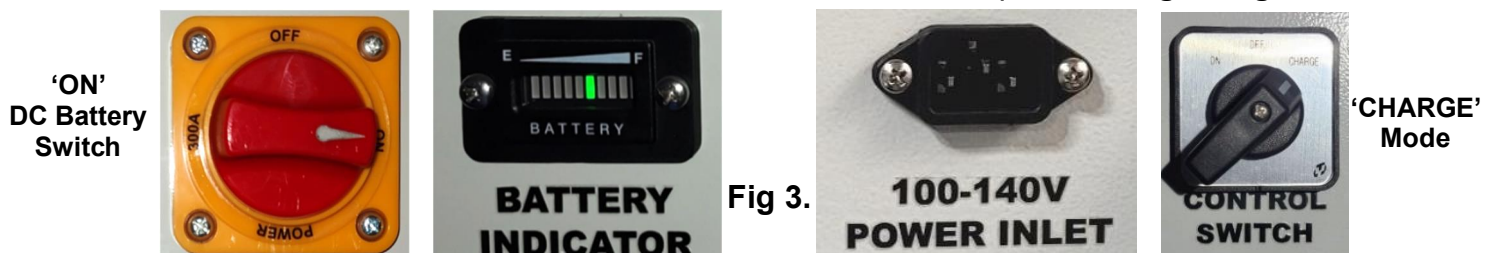

Fig 3.
- The Lift Table includes an integrated **Battery Charger** inside the control box & **Battery Level Indicator** located on the control box panel. After the **DC Battery Switch** is turned **ON** the **Battery Indicator** will provide the battery level status output capacity. **Green bars** indicate normal battery level output, **Yellow bars** for low output & **Red bars** for warning to recharge battery. **Fig. 3 'left'**
- To **Charge** the **12VDC Battery**, use the included **AC Power Cable** to plug into the **Power Inlet** socket, then set the **Control Switch** to the **CHARGE** mode position. **Fig. 3 'right'**